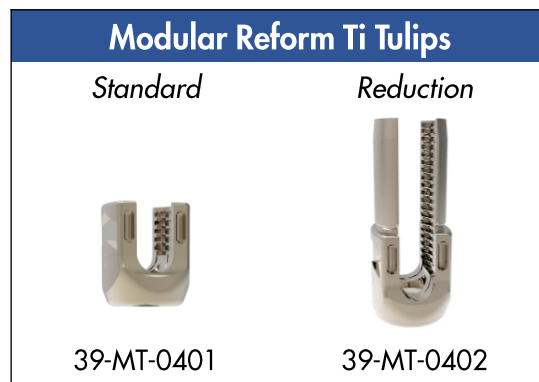

Figure 11
- Align the inside tabs of the Tulip Clamp with the insets of the Modular Tulip (Figure 11).